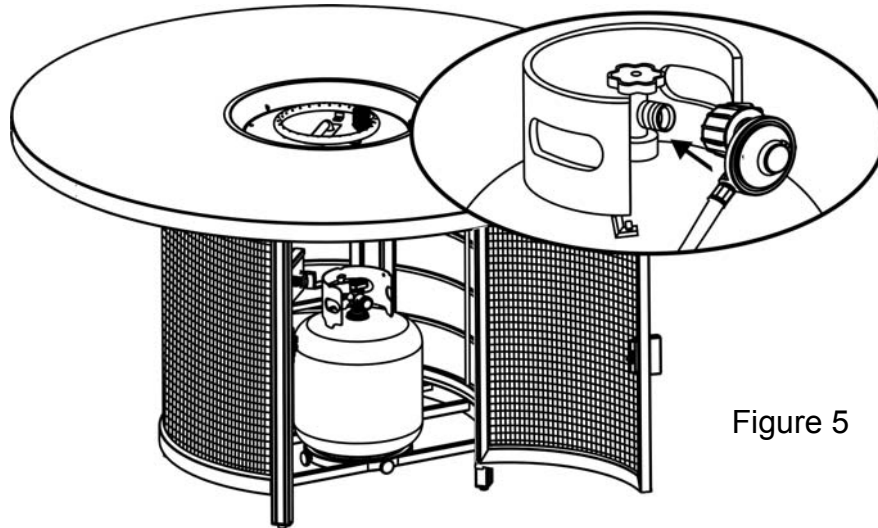

Figure 5
5. Pull the handle to release the door and place the LP tank on the rack. Connect the regulator as shown in Figure 5. Turn the black handle clockwise to tighten. Turn the handle counterclockwise to remove. The hose must point down. Check that the valve is turned all the way clockwise to the "OFF" position. Open the tank valve. Apply a solution of soapy water to the tank-regulator connection and to the valve-hose connection to check for leaks. If soap bubbles continue to form, the connection has a leak. If a leak is found, close the tank valve and tighten all connections.